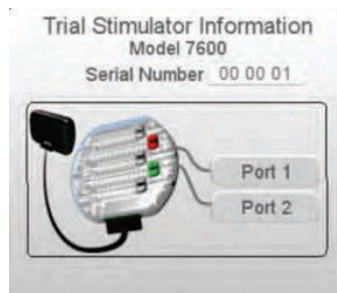

Figure 14. Trial Stimulator popup
- b. Tap  (Connect Lead). The Trial Stimulator Information popup displays (Figure 14).